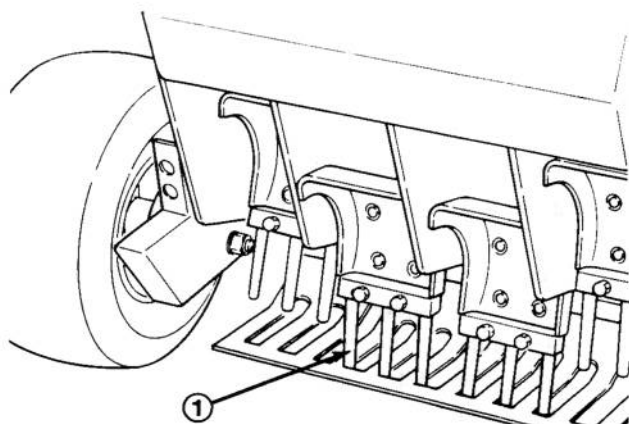

Figure 7
5. Tighten the mounting nuts to 100-110 ft/lb. torque (Fig. 7).